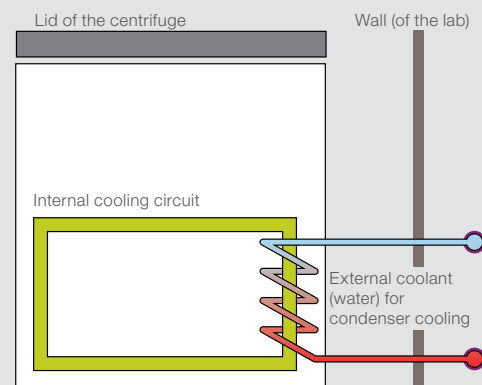

Figure 3. External cooling options.
- Water or air-cooling configuration, complete with containment skirt (Figure 3)